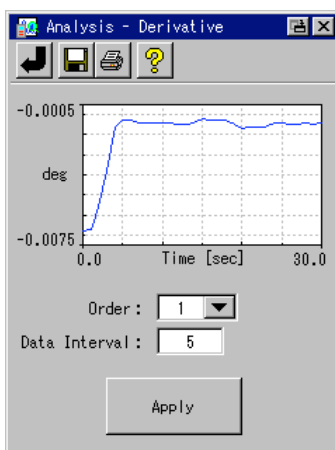

Figure 5.16 Derivatives window
- 1) Press the <Derivatives> button in the analysis window. If the data is not saved, after confirming the data saving, the window shown in Fig. 5.16 is displayed.